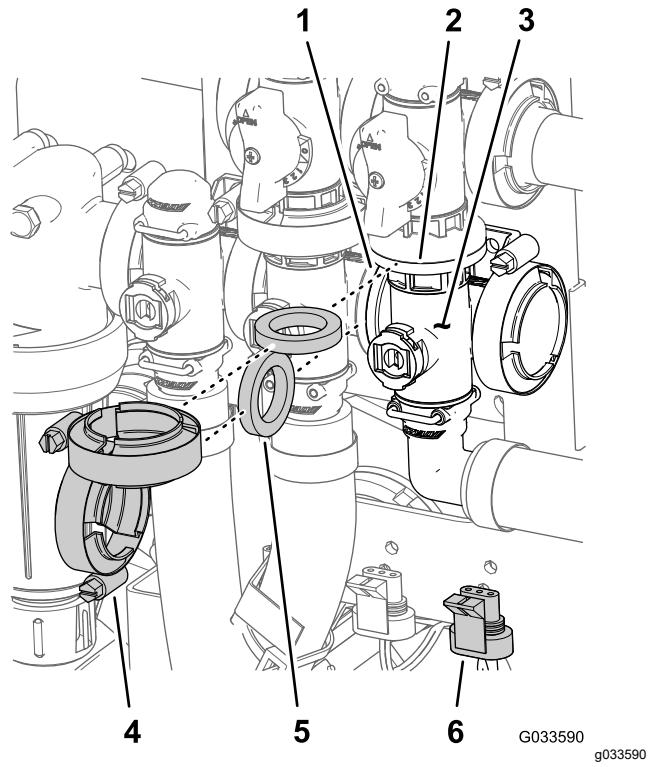

Figure 129
1. Align the flange of the master-boom-valve manifold, a gasket, and the flange of the master-boom bypass valve (Figure 129).
2. Assemble the master-boom valve manifold, gasket, and master-boom bypass valve with a flange clamp tightened hand tight (Figure 129).
3. Align the flange of the master-boom-valve manifold, a gasket, and the agitation-valve manifold (Figure 129).
4. Assemble the master-boom-valve manifold, gasket, and agitation-valve manifold with a flange clamp and tighten by hand (Figure 129).
7. Assemble the agitation valve to the valve mount with the flanged-head bolt and flanged locknut (Figure 129) that you removed in step 3 of Removing the Master Boom Manifold Valve \(page 80\), and torque the nut and bolt to 10 to 12 N·m (90 to 110 in-lb).